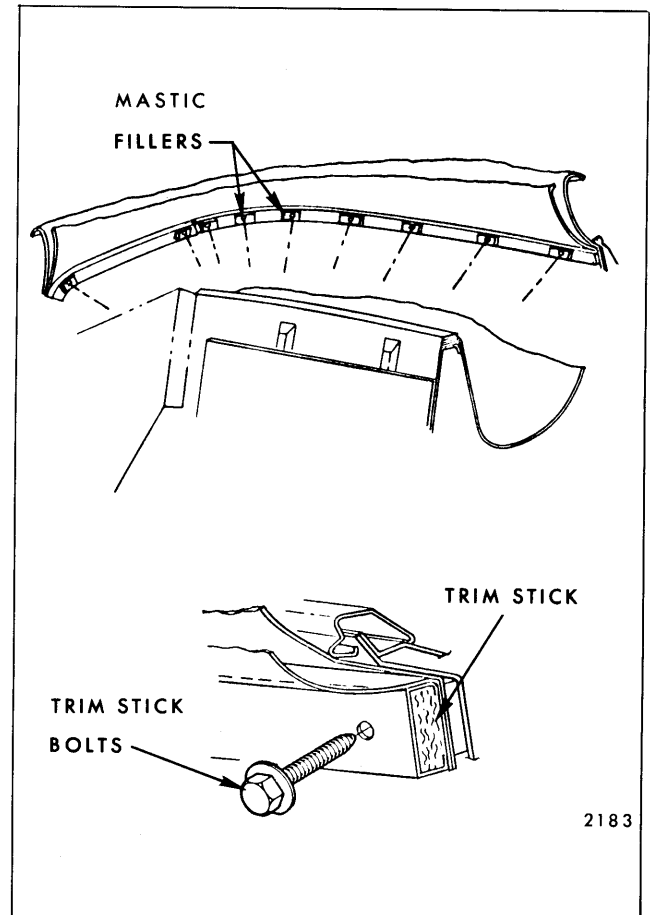

Fig. 13-15—Checking Trim Stick Fillers
11. Inspect mastic type trim stick fillers to body below pinchweld for sufficient seal at bolt holes (Fig. 13-15).